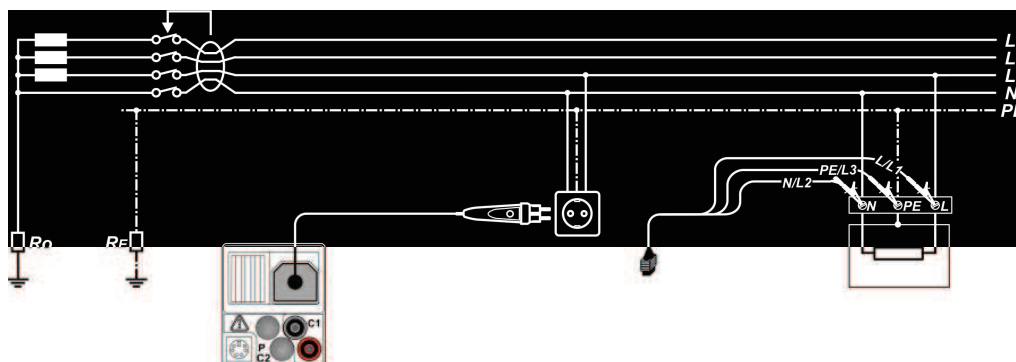

Figure 5.17: Connection of the optional "Commander" test plug (044149) and the three-wire test cable
- Connect the test cables to the test object (see figure 5.17).
- ☐ Connect the test cables to the test object (see figure 5.17).
- ❑ Connect the test cables to the test object (see figure 5.17).
<ul style="list-style-type: none"> Select the F/RCD function by means of the function selector switch. Set the sub-function to AUTO. Set the testing parameters. Connect the test cables to the test object (see figure 5.17). Press the "TEST" key to start the measurement. 	Start of test